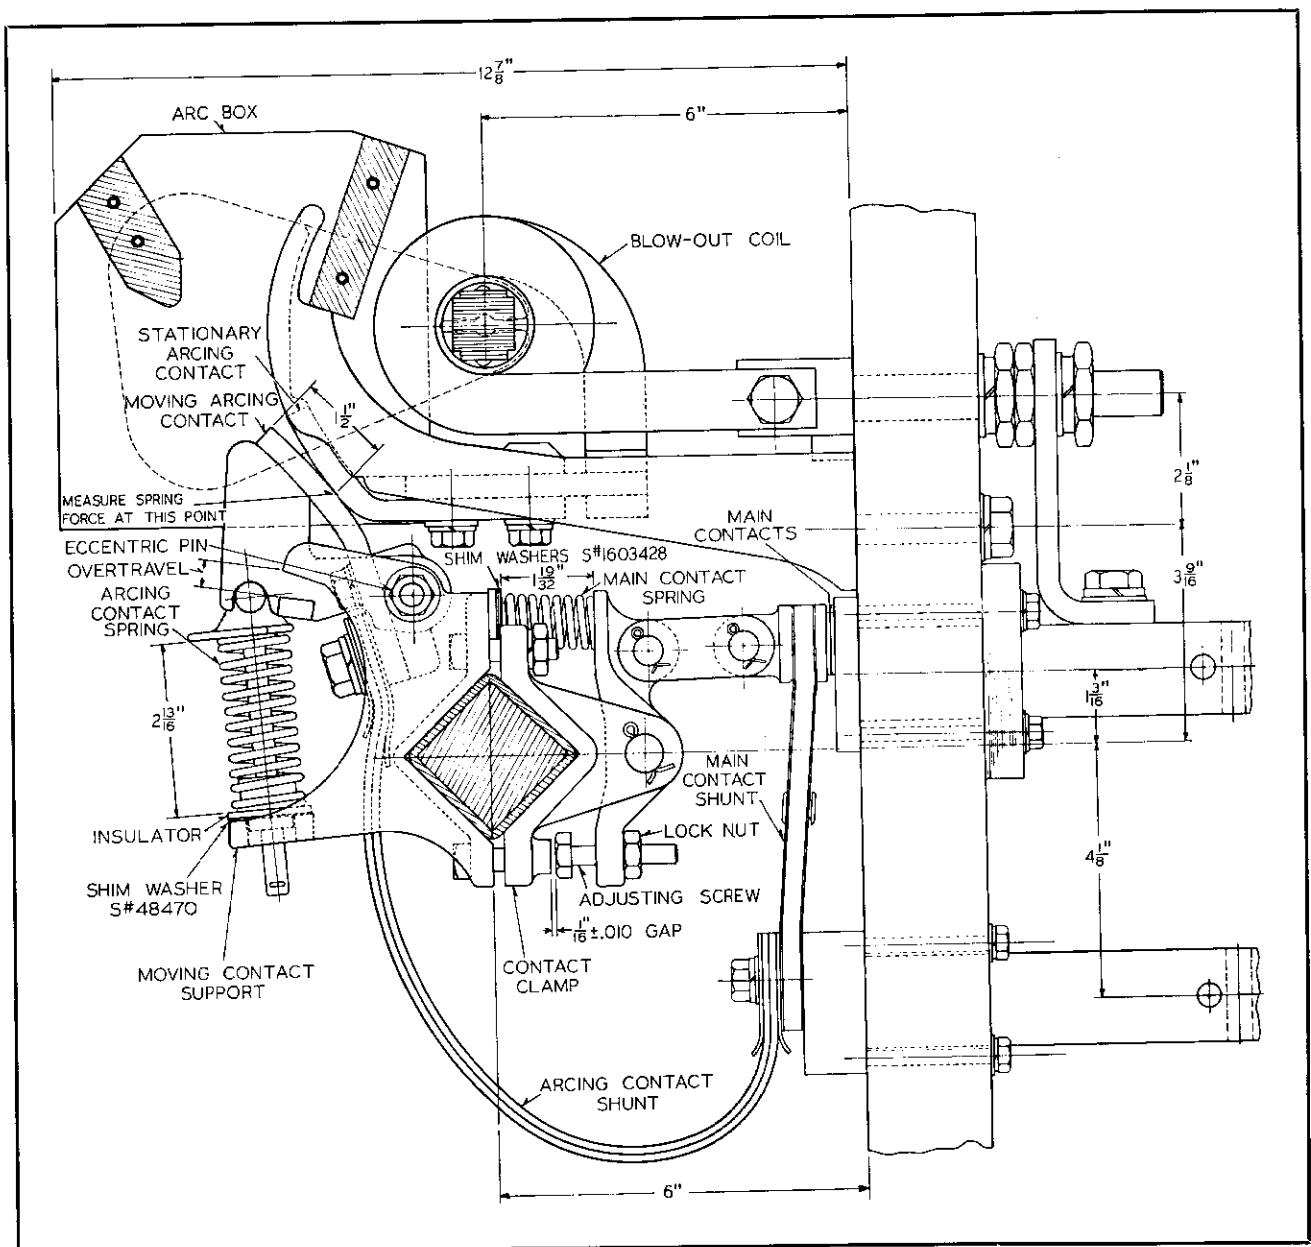

FIG. 4. Overtravel Adjustment on Size 8
b. With main contact spring in place and magnet sealed back off adjusting screw to provide at least $\frac{1}{16}$ " clearance between head of adjusting screw and contact clamp (See Fig. 4). Then determine number of shim washers S#1603428 required under the
main contact spring to give the $1\frac{1}{32}$ " dimension for the spring length as shown in Fig. 4.
e. With magnet sealed, set adjusting screw to provide the $\frac{1}{16} \pm .010$ inch gap between adjusting screw head and contact clamp as shown in Fig. 4.
The arcing contacts should be replaced when the overtravel measured as shown in Fig. 4 is reduced to $\frac{3}{32}$ inches. The current-carrying contacts should be replaced when the $\frac{1}{16} \pm .010$ inch gap is reduced to .015 inches.